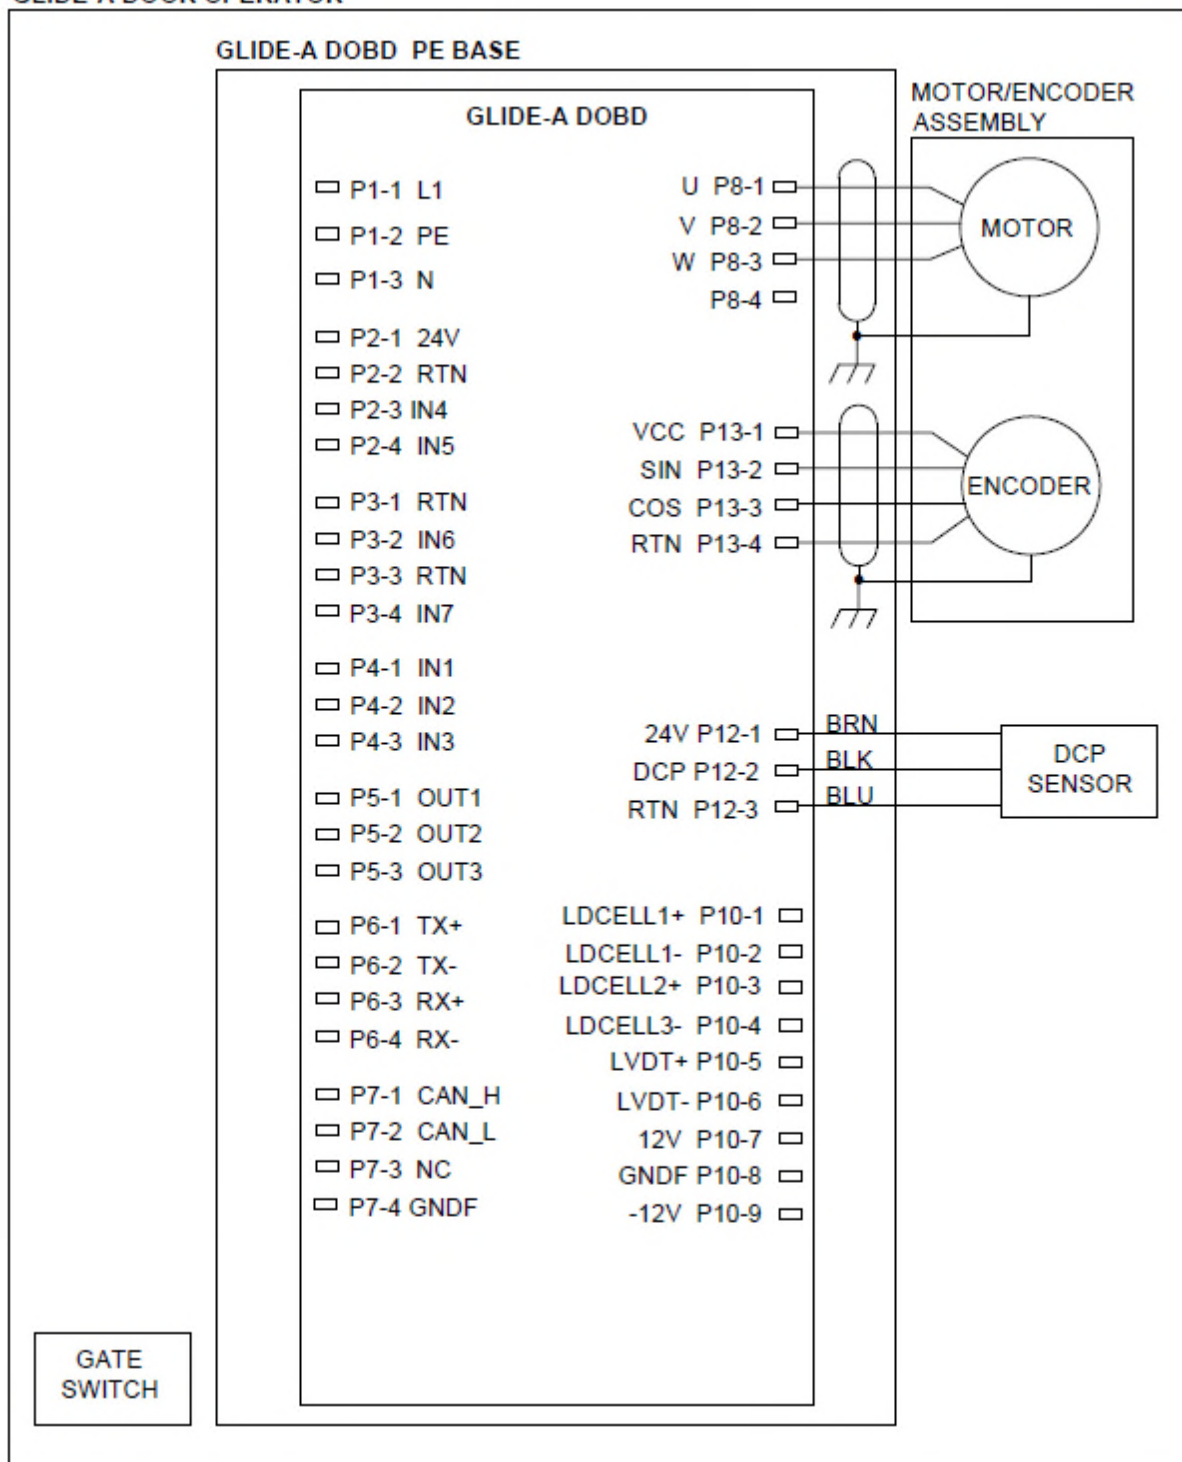
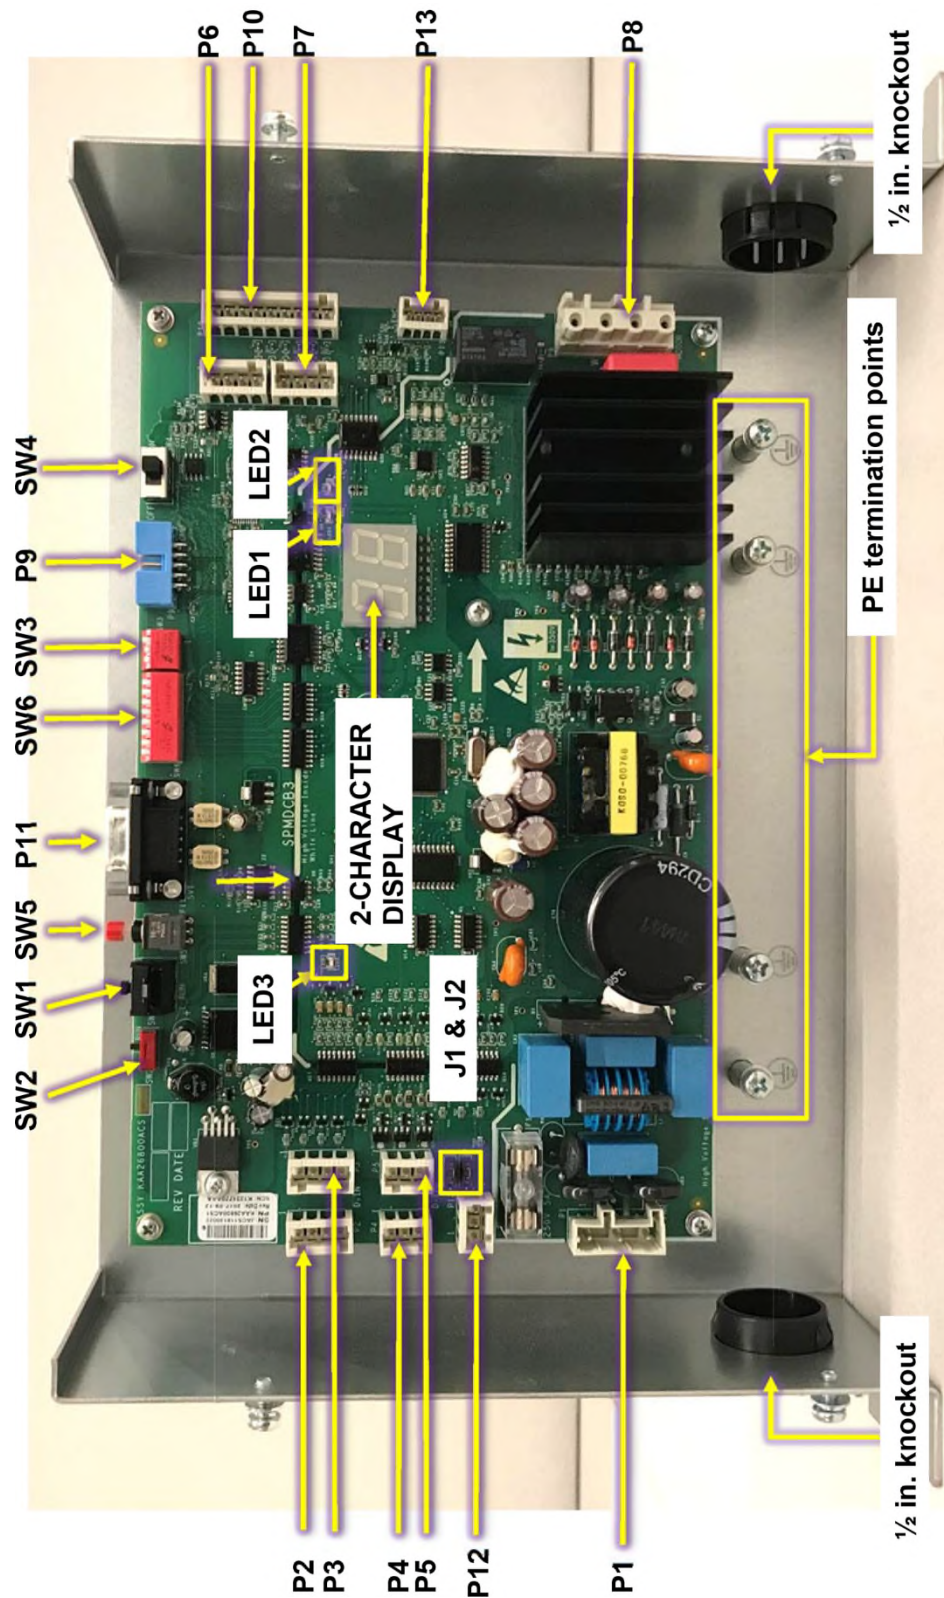

Figure 1: Otis Glide A Door Operator Factory Wiring
Figure 2: Otis Glide A KAA24360ABX Controller PC Board
1. Verify that the Otis Glide A door operator is wired as shown in Figure 1. Ensure that all wires are properly connected and all the shield wires are properly terminated to the PE points (shown in Figure 2) on the controller enclosure.
2. Terminate the Glide A gate switch PE wire (factory installed) to the Glide A controller PE points (see Figure 2).
These knockouts are located on either side of the controller as shown in Figure 2.